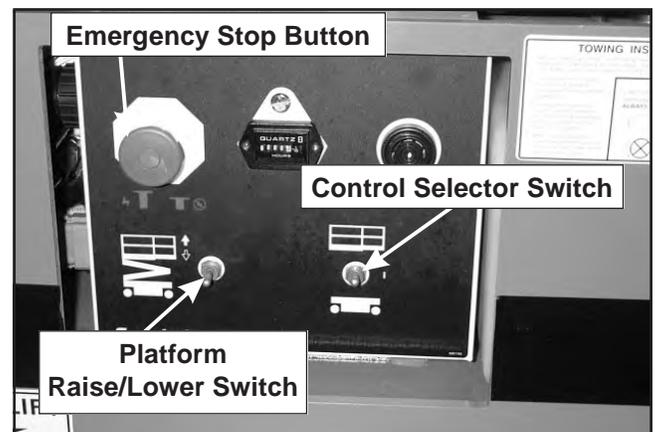

Figure 9.1—Lower Controls
1. Pull the emergency stop button outward (refer to Figure 9.1).